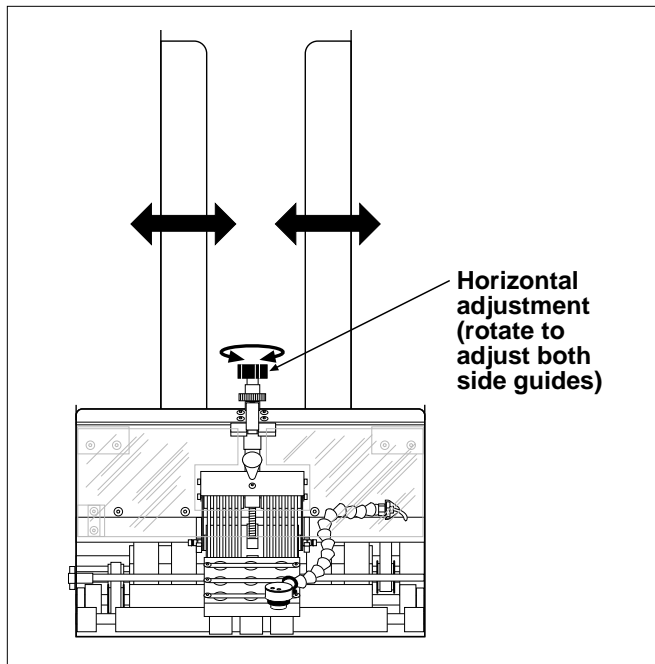

Figure 2-6. Horizontal Adjustment of Side Guides
**One-Knob Side Guides (optional).** To adjust each side guide for proper *equidistant* horizontal spacing using the single-knob adjustment, follow these steps (Figure 2-6):
- 1) *One-Knob: Both side guides controlled simultaneously by a single knob (as shown in Figures 2-6 and 2-7).*